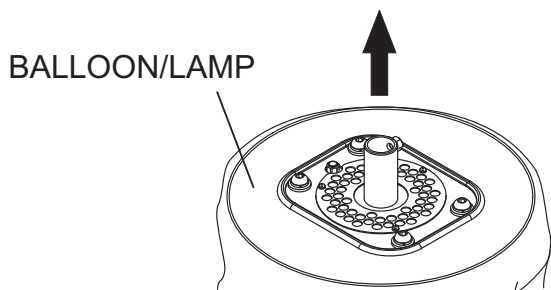

Figure 42. Balloon/Lamp Placement
3. Rotate the balloon/lamp base assembly so that the filter is facing upwards. See Figure 42.